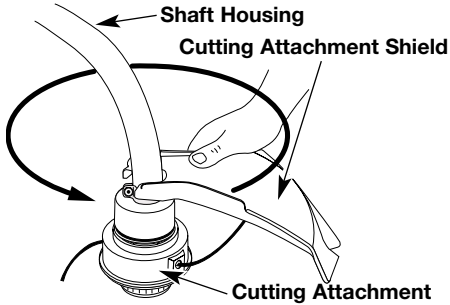

Fig. 4
1. Place the cutting attachment shield onto the shaft housing above the clamp assembly, so that the shield is in front of the cutting attachment (Fig. 4).